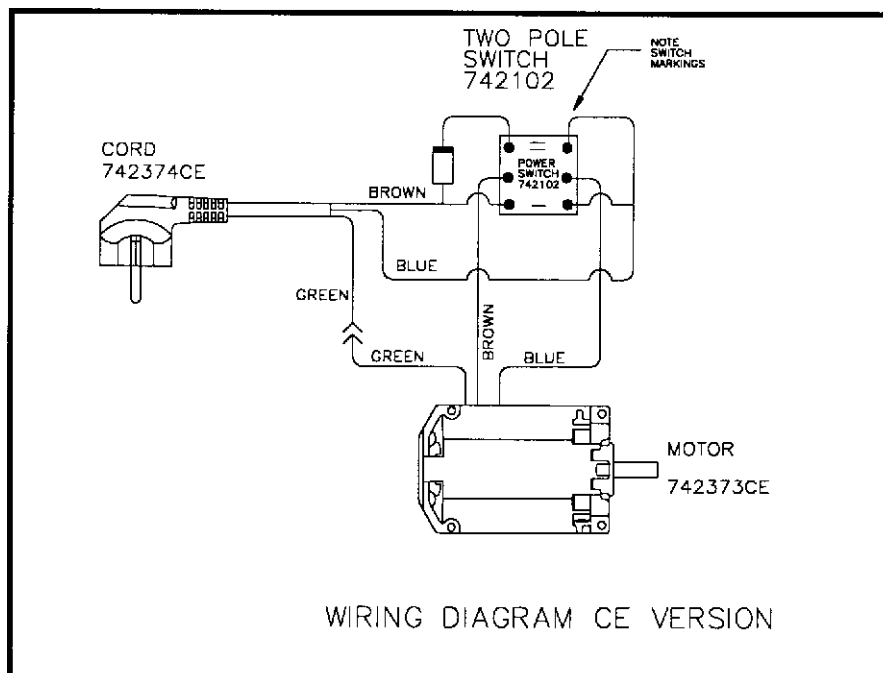

**FIG. 1**
3. This tool is equipped with a 3-position power switch. The single bar position is for "low" speed. The center position is "off". Double bar position is for "high" speed. (See fig. 1).